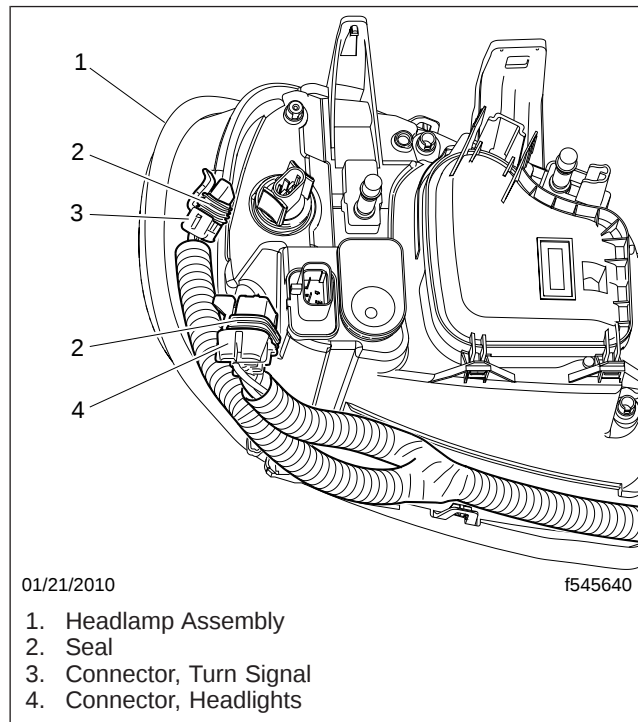

Fig. 3, Seals on Connectors
- Verify that the electrical connectors for the turn signal and headlights have seals; see Fig. 3. Missing or damaged seals can allow moisture into the headlamp assembly.